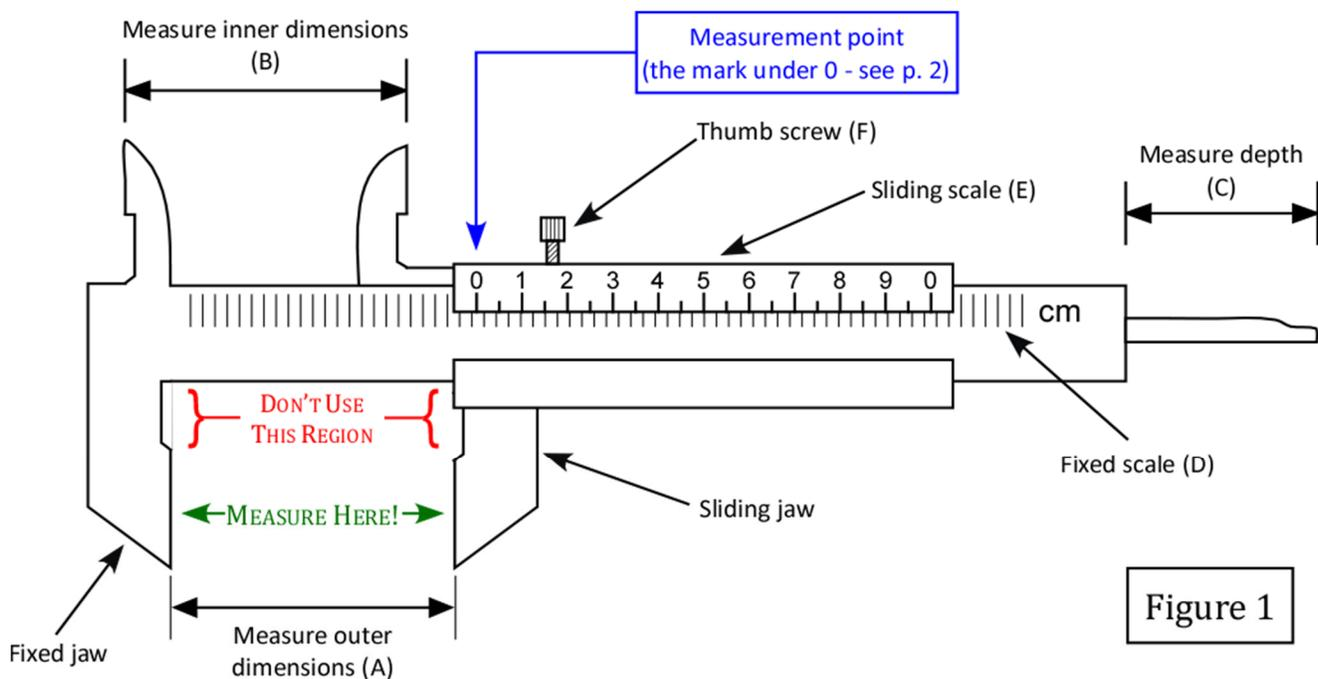
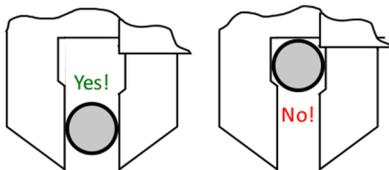
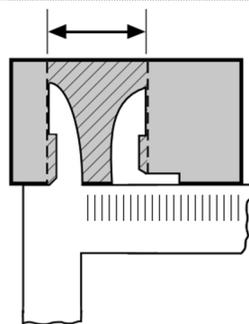

Figure 1
Figure 1a
Figure 1b
Figure 1 below is a sketch of a typical vernier caliper, similar to the type you will use in this course. You will use the larger “jaws” (A) most frequently to measure outer dimensions, such as the width of a block or circular rod (Figure 1a). You can also use section (B) to measure inner dimensions, such as the diameter of a hole (Figure 1b), or section (C) to measure the depth of a hole (Figure 1c). The vernier scale is read the same in each case, no matter which portion of the caliper is used take your measurement: therefore, parts A, B and C give you the same length.
1. Loosen the thumb screw clamp (**F**), if necessary, and close the sliding jaw so that it fits snugly on the object to be measured. If the object is circular or spherical, make sure you're measuring at the widest point. When measuring outer dimensions, be sure to use the flat section of the caliper jaws; don't use the region marked in *Figure 1*. See *Figure 1a* for the proper placement of a small circular object